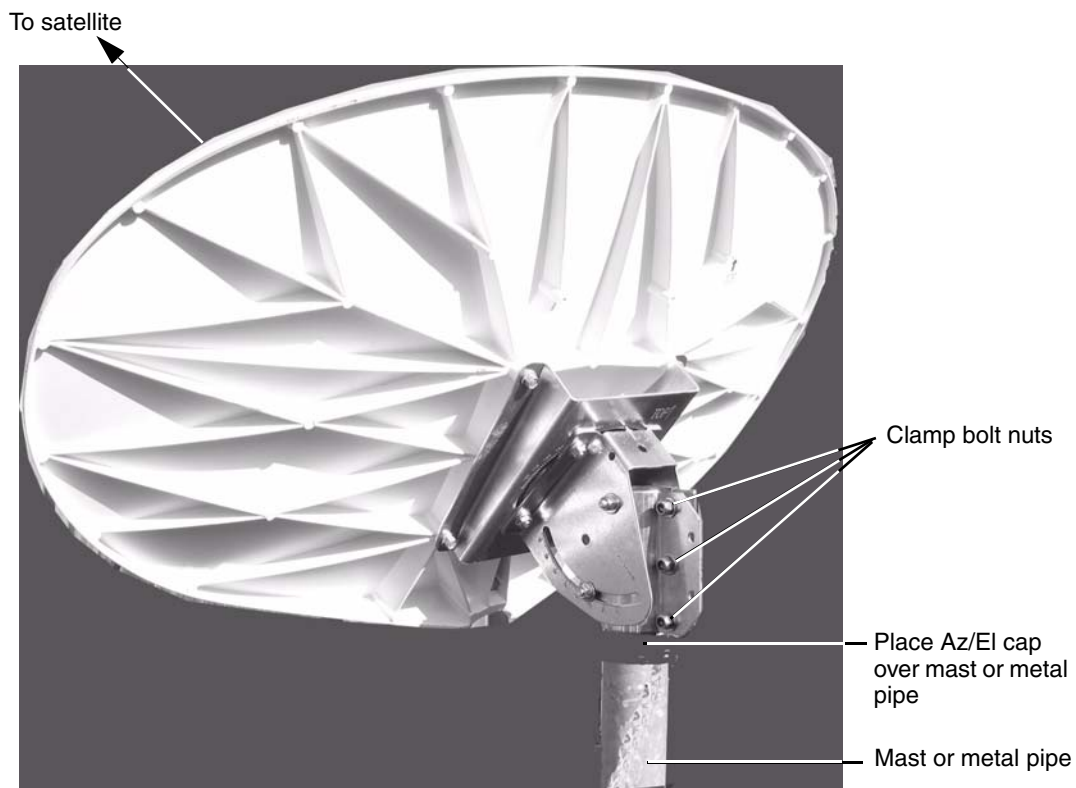

Figure 26: Installing the antenna assembly onto the mast
3. Lift the antenna assembly and slide the Az/EI cap onto the mast or metal pole (see Figure 26).